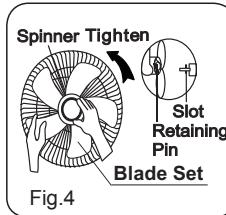

Fig.4
2. Mount the blade set onto the motor shaft through the center hole in the blade set. Insert the pin on the motor shaft into the notches on the back of the blade set. Turn the spinner counterclockwise onto the shaft to tighten the blade set into place. (Fig.4)